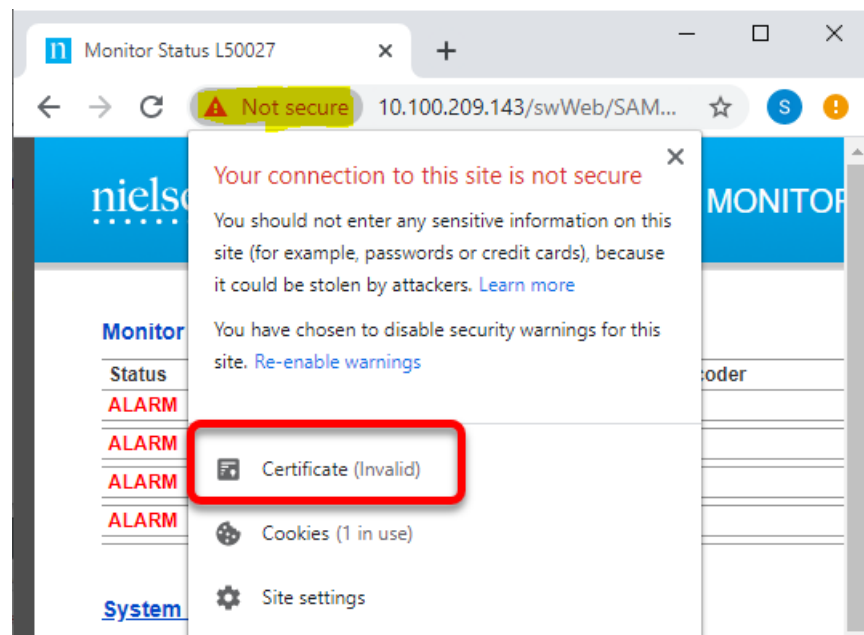

Figure 64: Click "Not Secure" Warning
3. On the address bar, click **Not Secure** then click **Certificate (Invalid)** as shown in Figure 64.